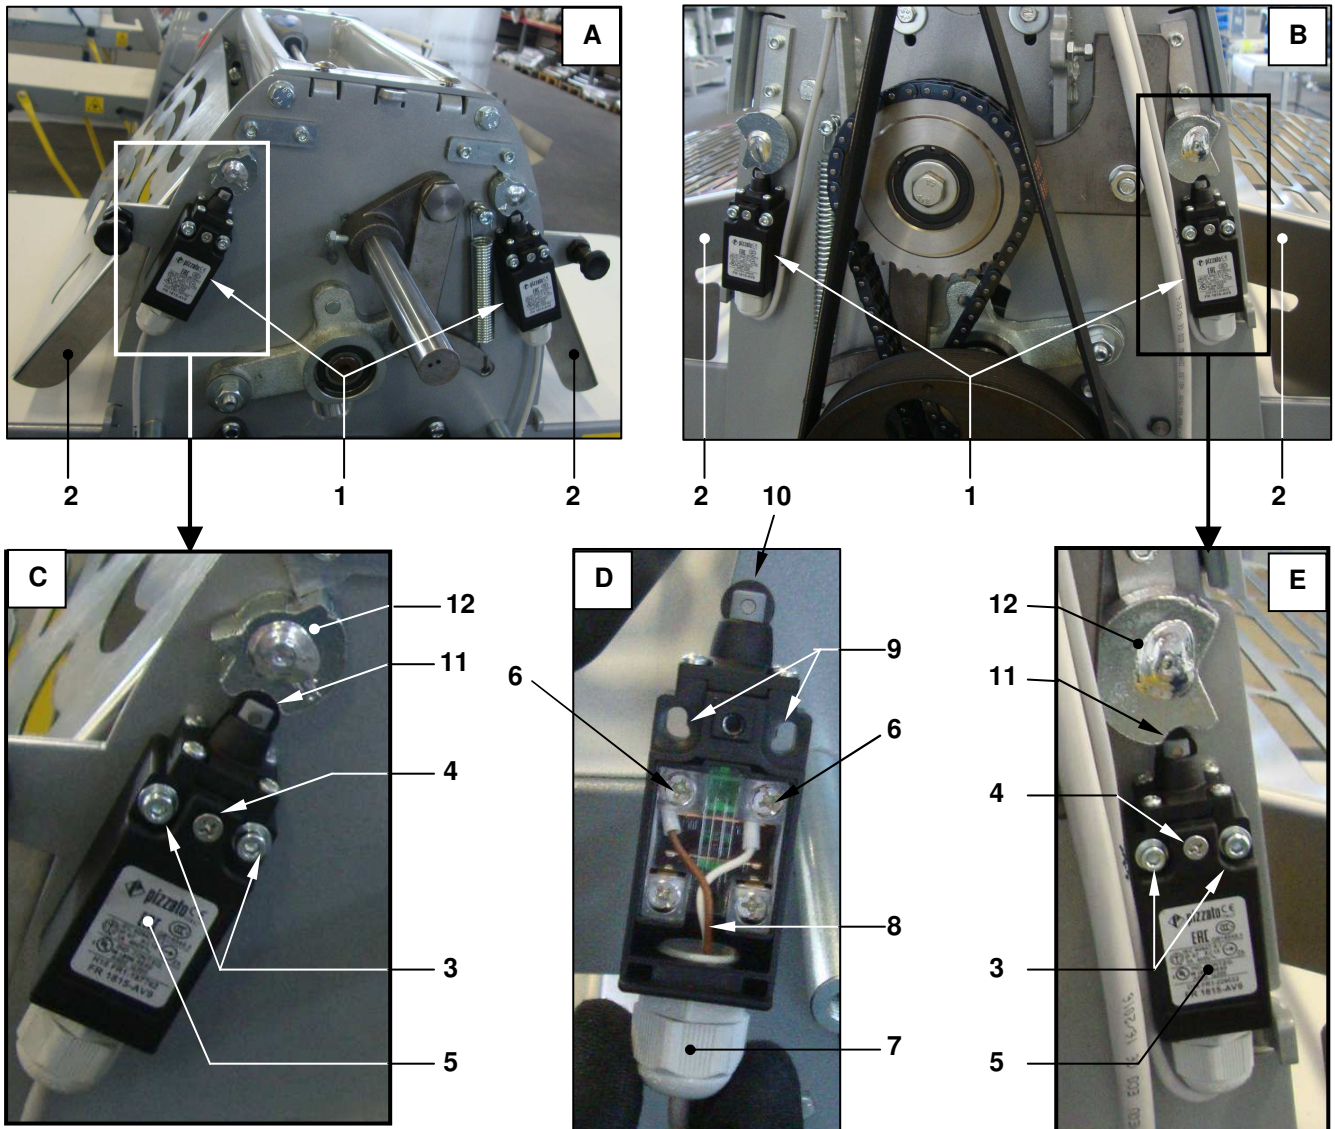

Figure 44 - Safety micro switches associated with the interlocked guards in the rolling zone
With reference to Figure 44, to access the micro switches ref. 1 of the interlocked guards ref. 2